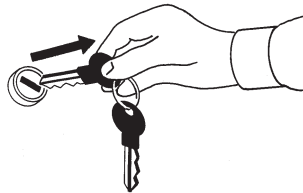

fig. 2.9
14. The key to the electrical cabinet must always and only be kept by the Customer's Safety Rep, where the cabinet is installed. It is also the Safety Rep's duty to entrust other authorised personnel with all the keys (fig. 2.9).